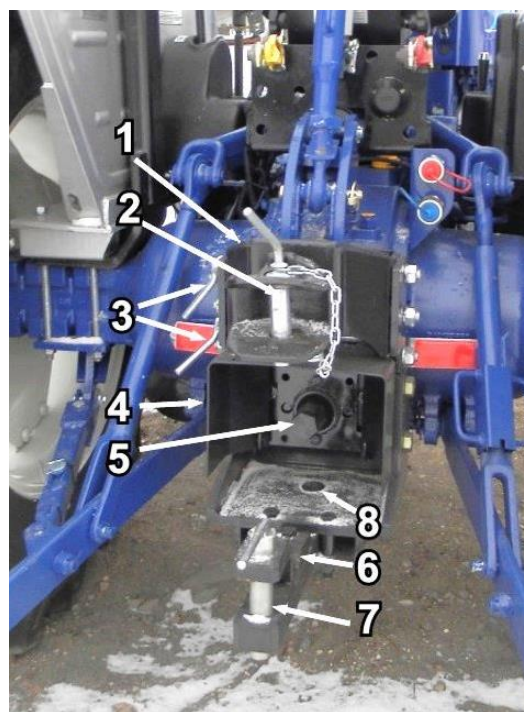
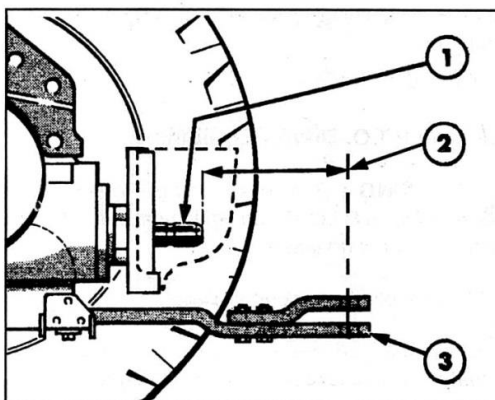

Fig. 4.6.2. Hitches
Fig. 4.7. Tractor drawbar load.
- remove the upper transport hitch (1 - Fig. 4.6.2),
- remove the drawbar (6 - Fig. 4.6.2), if close mounted implement is being attached after putting out the pin (8 - Fig. 4.6.2).
Apart from the three-point hitch (Fig 4.6.2), the machines and implements can be attached to:
Upper transportation hitch (1 - Fig. 4.6.2) – is used for hitching a two-axle trailers. Secure the hitch attaching pin with a cotter. This hitch must be detached when attaching implements to the three-point hitch. To disconnect the hitch move out pin (3 - Fig. 4.6.2)
Tractor drawbar (6 - Fig. 4.6.2) – is used for hitching trailed machines and implements. There are two positions of drawbar (extended and folded). When extended, the distance from drawbar pin axis to PTO shaft end is 400 mm and permissible vertical load on drawbar is 5 kN. In folded position the distance is 350 mm and permissible vertical load is 8 kN (Fig. 4.7). This position enable to attach PTO driven machines and implements base on single axle trailer.